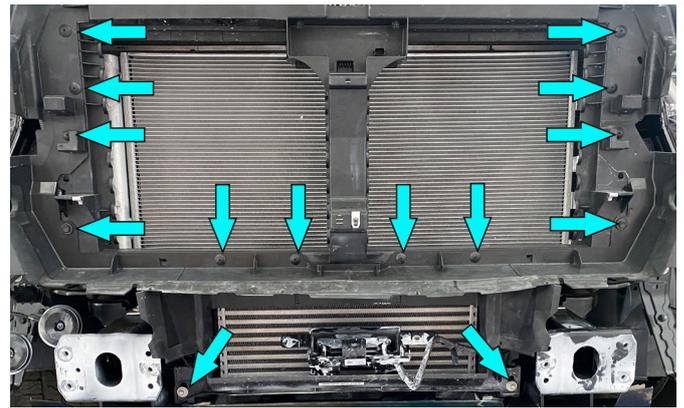

Fig.14
14. Unscrew OE bolts and remove OE plastic covers (fig.14).